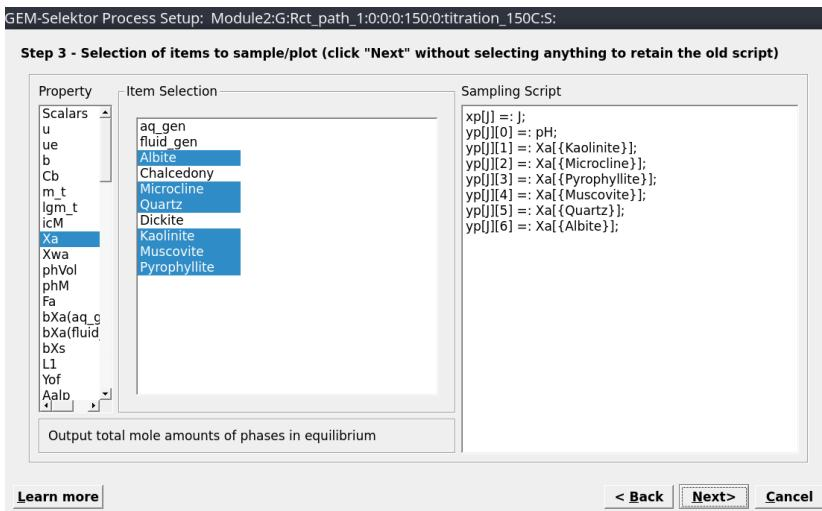

Figure 2.9: Choose the results to be plotted, including pH and mole minerals.
- Select items to be plotted (**Scalars**: pH; Xa: Kaolinite, Pyrophyllite, Microcline, Muscovite, Albite and Quartz) as shown in Figure 2.9.